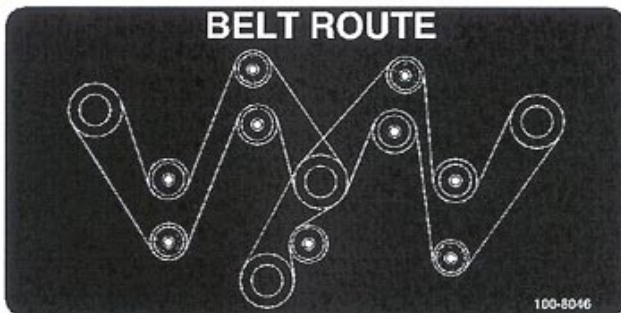

Figure 32
2. To replace gear box belt, loosen spring tension rod and remove belt. Retention new belt to 30 lbs. Refer to Figure 32 for belt routing.
4. Pull spring loaded idler pulley away from belt, with hand, to relieve belt tension and remove belt. Retention new belts to 10 lbs. Refer to Figure 32 for belt routing.